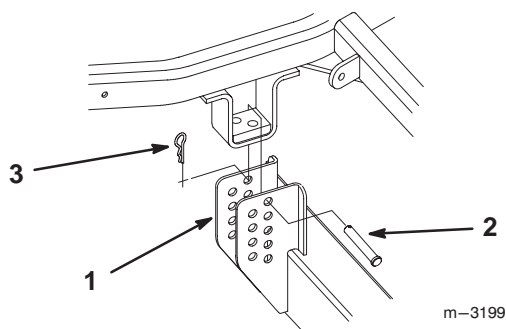

Figure 14
5. Remove hairpin cotters and clevis pins from mower hanger brackets and remove mower from carrier frame (Fig. 14).